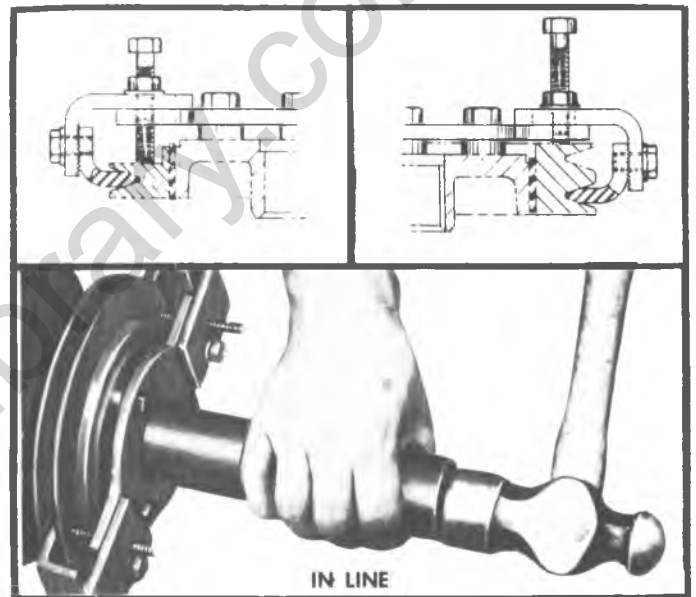

Fig. 11--Installing Torsional Damper (Drive on Type)
- b. Attach damper Installer Tool J-22197 to damper. Tighten fingers of tool to prevent weight from moving (fig. 11).
- c. Position damper on crankshaft and drive into position using J- 5590 until it bottoms against crankshaft gear or sprocket (fig. 11). Remove installer tool.